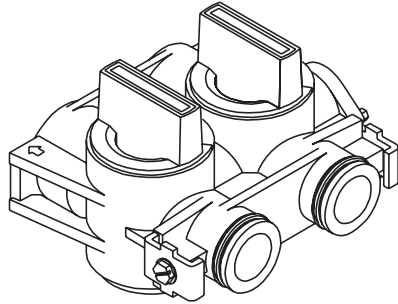

Figure 13\*
- Move the filter and aeration bypass valve handles to the service position (see Figure 13) and allow water to fill both tanks.